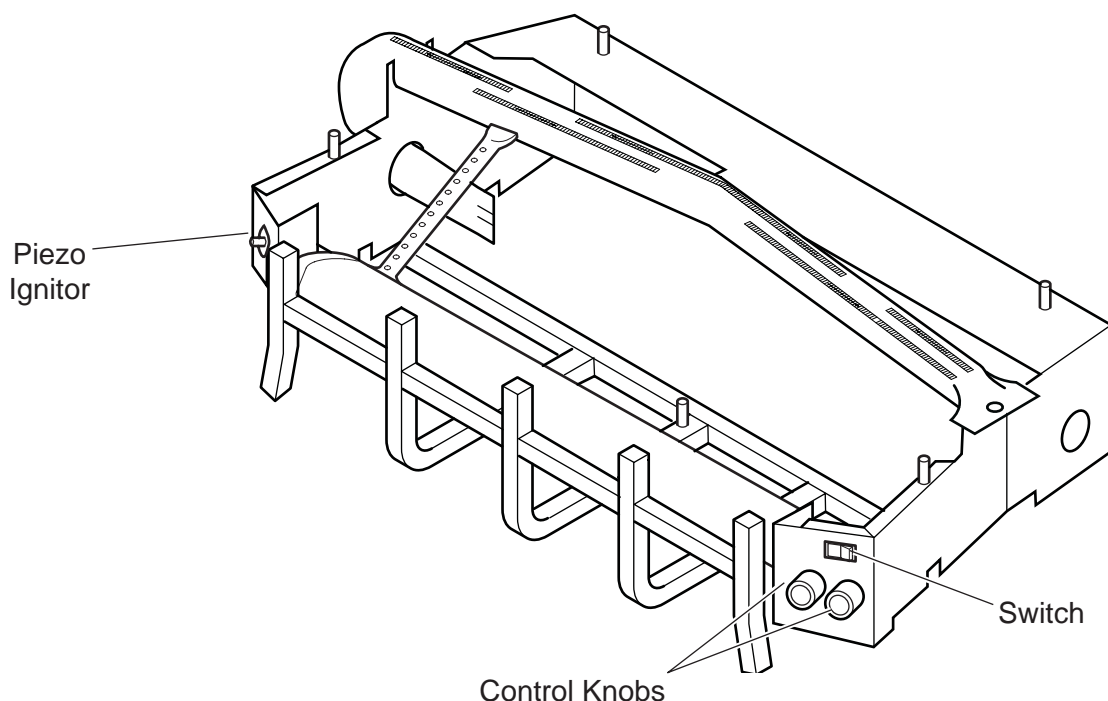

Figure 32 - Location of Piezo Ignitor, Control Knobs and Switch on Milli-volt and Manual Units
4. Refer to *Figure 32, page 29* for the location of the piezo ignitor and control knob. Push in gas control knob slightly and turn control knob clockwise to the OFF position.